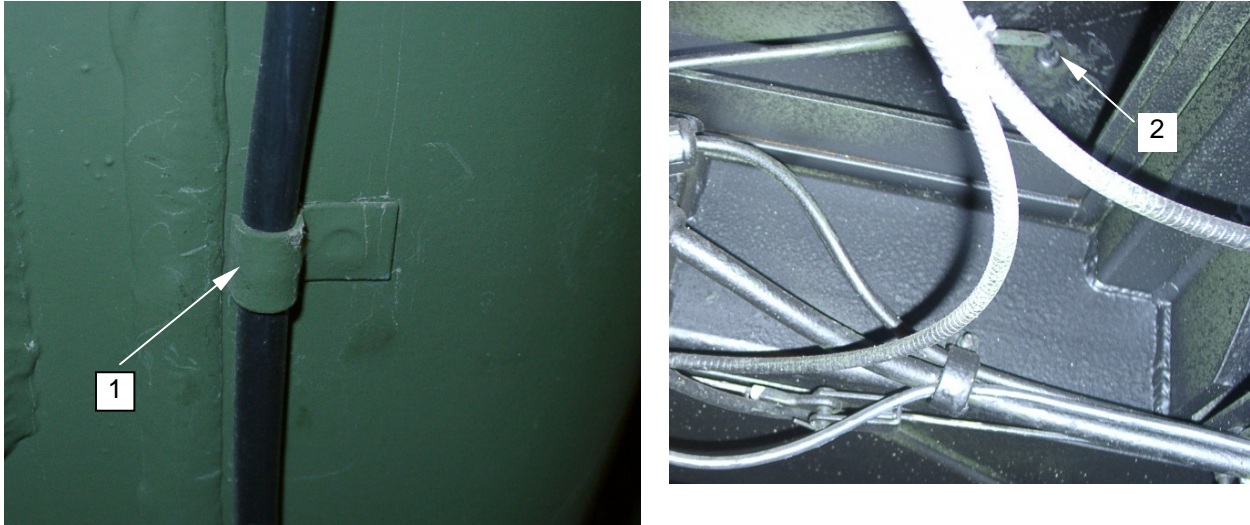

Figure 10. Wire Clamps
6. Pry back wire clamps (**figure 10, item 1**) to free wire from the trailer.
7. Loosen and remove wire clamp (**figure 10, item 2**).